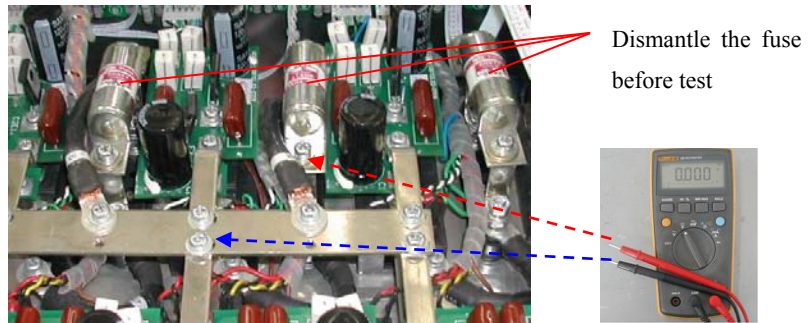

Figure 5-12 Inverter test
⑤ **The rectifier symptom that caused by inverter diagnosis program:**
B. Remove the inverter DC fuse, test the resistance between C1 and E2 of IGBT, as shown in figure 5-12, the value should be more than $10\text{K}\Omega$, else it should be IGBT or its filter board damage.
⑥ **Inverter test:** Remove the inverter fuse, pull out CN11, CN12 of power backup and transfer board, pull out CN9, CN15 of main board.
A. Close the power breaker, test J1 of main board with a oscillograph, the wave shape will be 9KHz square wave, the wave Vp-p should be $23 \pm 2V$, frequency should be $9.00 \pm 0.05KHz$. The oscillograph ground line can be connected to R37 down pin, as shown in figure 5-12. The signal can be tested with a multimeter, the value should be $11.10 \pm 0.2Vac$, $0.2 \pm 0.1VDC$.